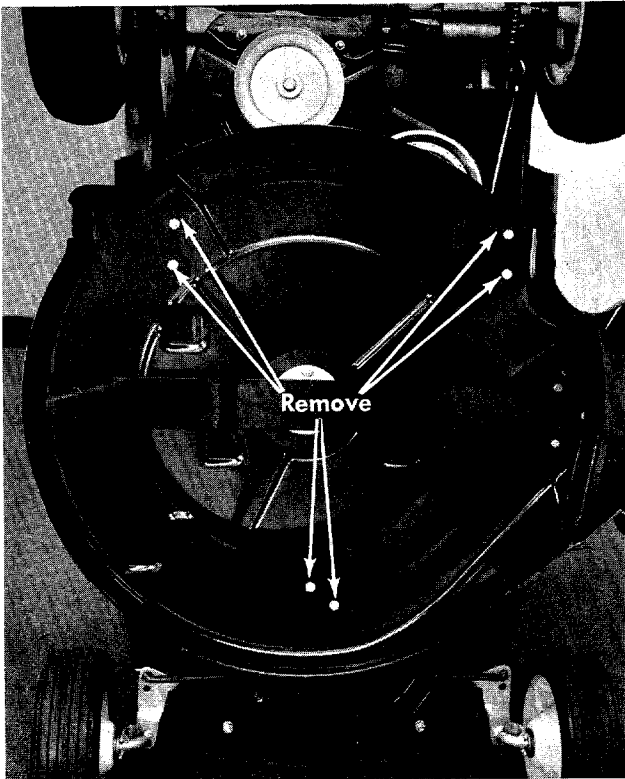

FIGURE 18. DECK REMOVAL
- Step 3. Remove six hex screws, nuts and lockwashers holding the deck. See figure 18.